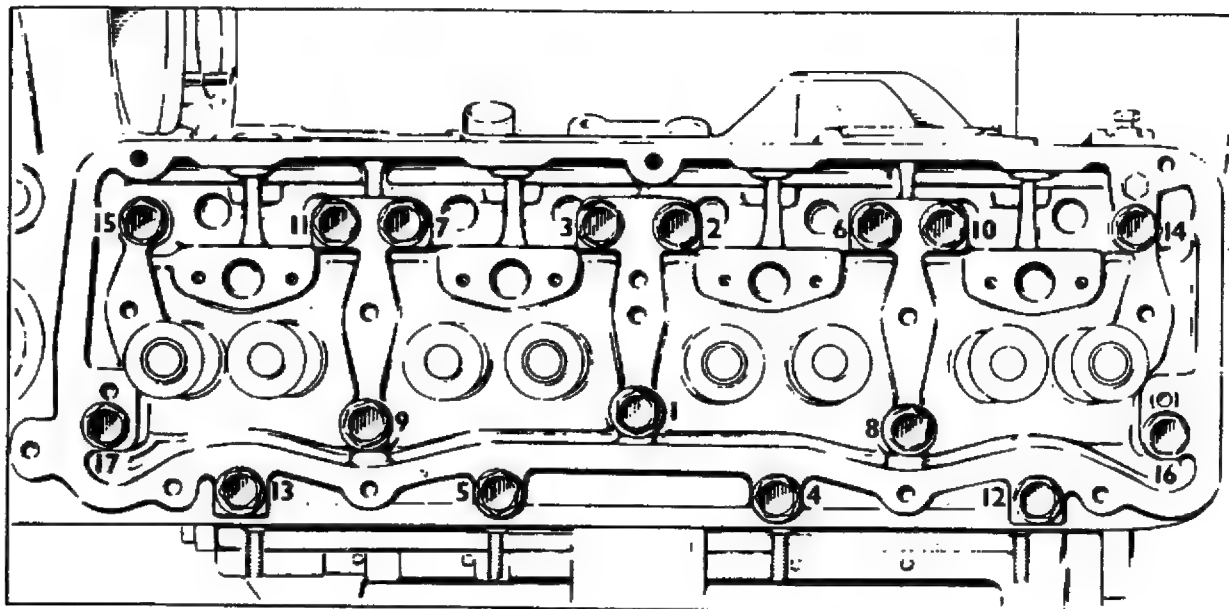

Fig. 31 Cylinder Head Bolt Tightening Sequence (4 cylinder)
26. Fit the cylinder head. Locate the cylinder head gasket on the locating dowel and studs, Tool No. C.6135-4 screwed into the four corner cylinder head bolt holes. Fit the cylinder head and install the bolts before removing the two locating studs. Tighten the head bolts down evenly in the sequence shown in Figs. 31 and 32. Finally, tighten the bolts down to the correct torque shown in the 'Specifications' on Page 24. (Note: Turbo Plus engines have two special extension cylinder head bolts for intercooler mounting.)